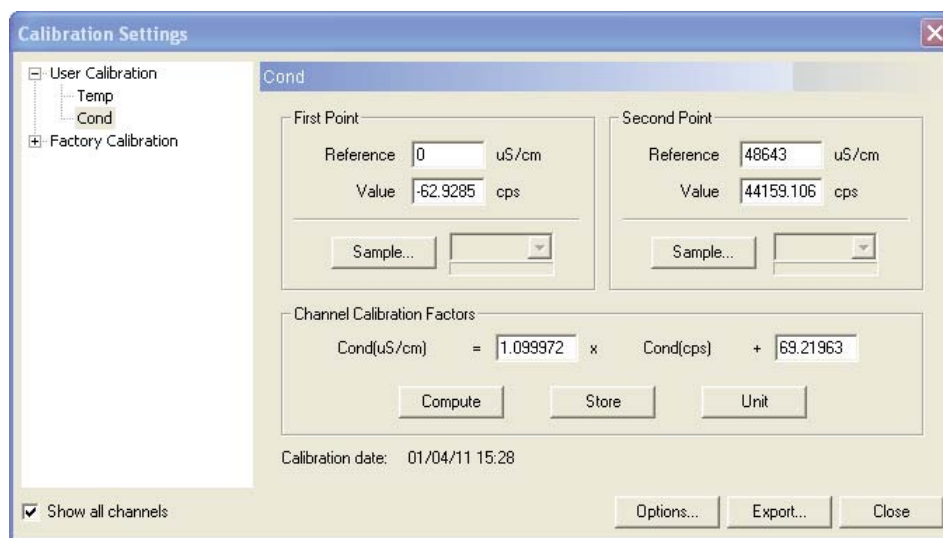

Figure 5-2 Calibration Settings dialog box (Conductivity page)
5. Select **Calibration Settings** (see Figure 5-2).
1. Place the sensor body in the reference solution. Ensure the reference solution is above the three exit holes on the probe. In the **First Point Reference edit box of the Calibration Settings dialog box** (Figure 5-2) enter the non-compensated low calibration value read from the conductivity-meter. If necessary change the units by clicking on the **Unit** button.